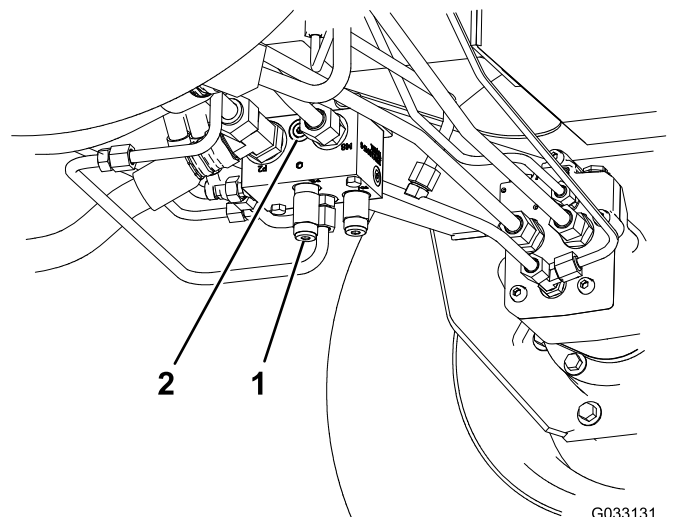

Figure 41
- Toro Part No. 95-0985, coupler fitting (2)
- Toro Part No. 340-77, hydraulic fitting (2)
1. Install a diagnostic fitting in the unmarked port located between ports M8 and P2 on the rear traction manifold (Figure 41).